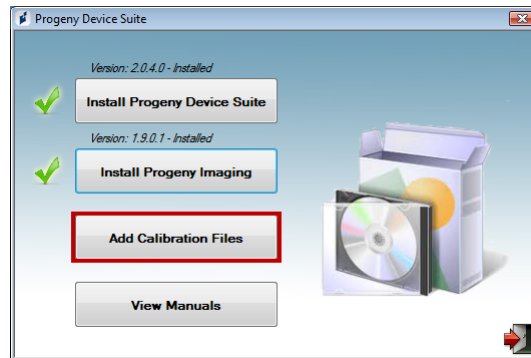

Figure 9: Calibration file installation
- To add the calibration file onto your computer click on the “Add Calibration Files” button (Figure 9).